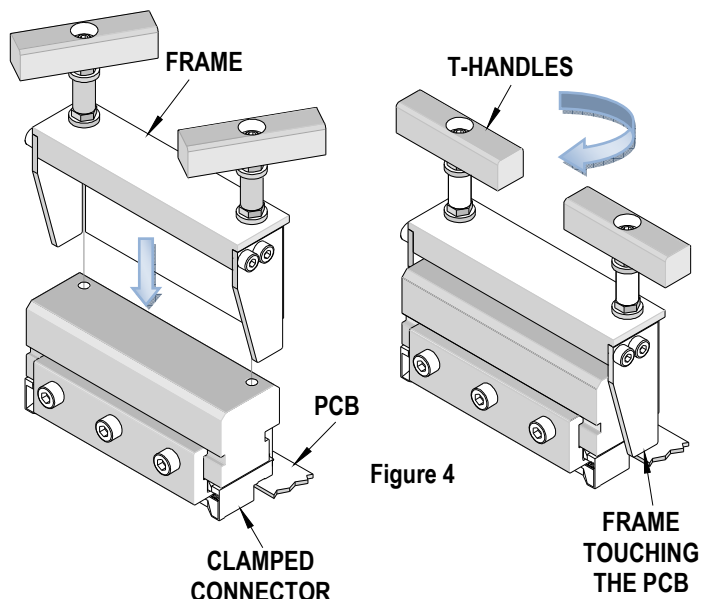

Figure 4
3. Tighten the (3) M5 socket head cap screws to hold the housing clamp on the lift block.
4. Place the frame assembly over the clamps. The frame is a close fit to the sides of the connector. See Figure 4.
5. With the bottom of the frame touching the PCB, turn the T-handles clockwise (CW) to extract the connector.